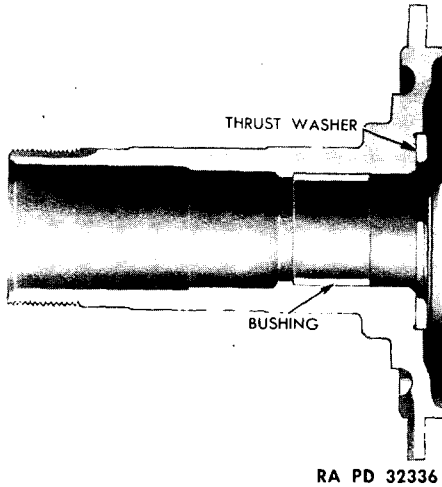

Figure 18—Cross Section of Steering Knuckle
(3) **REASSEMBLE COMPONENT PARTS.** Install the axle shaft, steering knuckle, brake backing plate, oil deflector, spacer, anchor plate, wheel hub, driving flange and wheels according to instructions given in paragraph 28 b (6) through (15).
17. STEERING KNUCKLE (fig. 18).
a. To replace the steering knuckle or bushing, it is necessary to remove the component parts, as instructed in paragraph 11 (1) through (10). After removing the brake backing plate, remove steering knuckle from housing.